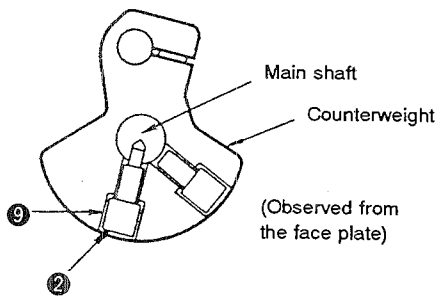
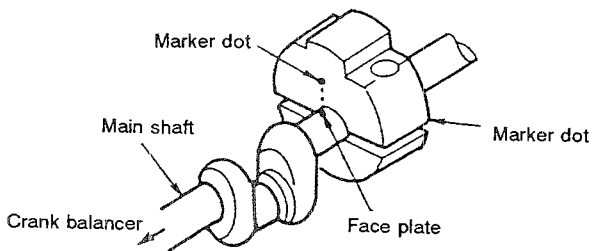

Fig. 5-56-3
Fig. 5-56-4
- 2) When fixing the counterweight, be sure to insert setscrew ② into screw hole ③, and fix the counterweight so that the taper of the top end aligns with the taper hole in the main shaft. (Fig. 5-56-3)
- 3) Install the main shaft thrust collar referring to the "STANDARD ADJUSTMENTS (35)." (The oil groove is located on the side of the intermediate bushing.)
- Intermediate presser cam STANDARD ADJUSTMENTS (20)
- Bobbin winder driving wheel STANDARD ADJUSTMENTS (24)
- Thrust collar of the thread trimming cam STANDARD ADJUSTMENTS (15)
- Thread trimming cam STANDARD ADJUSTMENTS (15)
- 5) When fixing the crank rod cover, refer to the "DISASSEMBLY/ASSEMBLY PROCEDURES (45)."
- 6) When fixing the crank balancer, make sure that the marker dot on the main shaft aligns with the marker dot on the crank balancer. (Fig. 5-56-4)
- 7) When installing the handwheel and the generator stator, refer to the "DISASSEMBLY/ASSEMBLY PROCEDURES (43)."